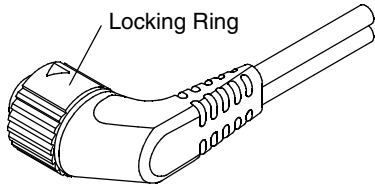

Figure 2-9 Therapy Cable Orientation
- 1 Orient the therapy cable so that the arrow is on top with the cable angled to the right (refer to Figure 2-9).